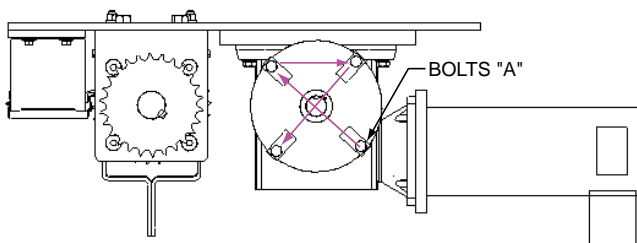

Figure 3.
(1) The purpose of the clutch is to protect the equipment from shock loads that might be introduced into the system. Under normal operation the clutch will not slip. Therefore, the clutch should be adjusted to a sufficient torque that will allow the operator to start and stop the door without any slipping. Keep in mind also that the clutch should not be so tight that it cannot slip under excessive loads.
(2) To adjust the clutch, tighten the bolts marked "A" as shown in Figure 3. Never tighten bolts consecutively, but always directly across from each other so as to provide even tension. An **equal turn** of each bolt is an important adjustment procedure. (See Figure 3).